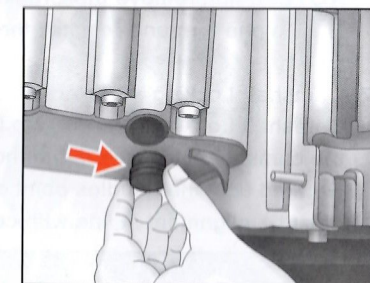

Fig.6
5. Remove the crankshaft timing plug located on the side of the sump. (Fig.6)